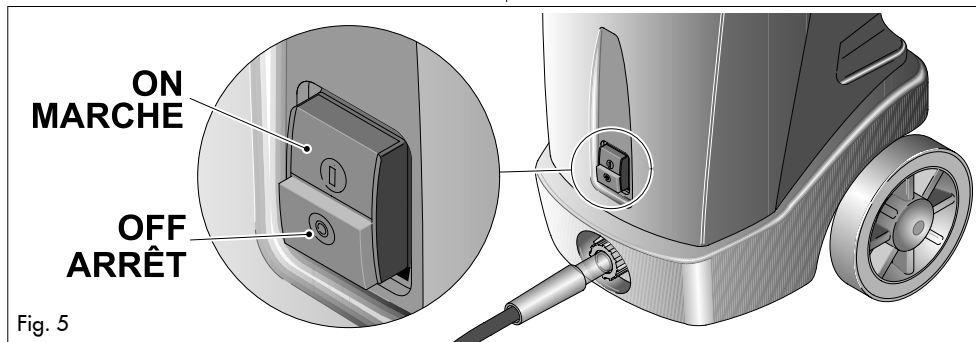

Fig. 5
- 8 Press the on/off button to start pressure washer (Fig. 5)